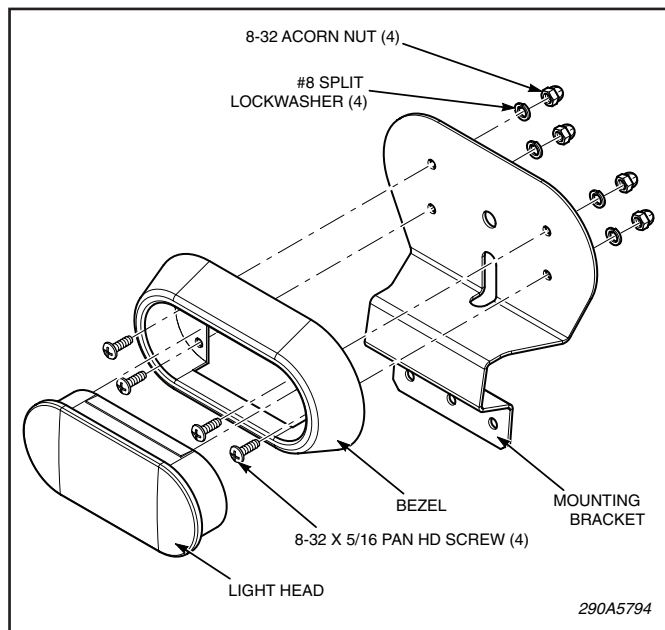

Figure 1.
2. See figure 1. Attach the bezel to the bracket using the supplied hardware.